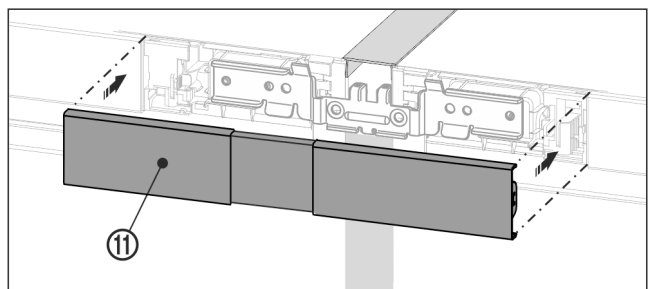

Fig. 30
- ▶ Snap the top cover *Fig. 30 (11)* onto the still open gap between the two control panel trims. Make sure that the outer sides of the cover form a flush finish with the control panel trims.